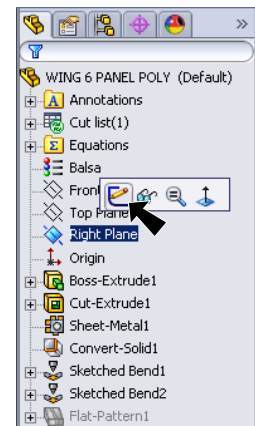

Fig. 29
Step 1. Click **Right Plane**  in the Feature Manager and click **Sketch**  from the Content toolbar, **Fig. 29**.